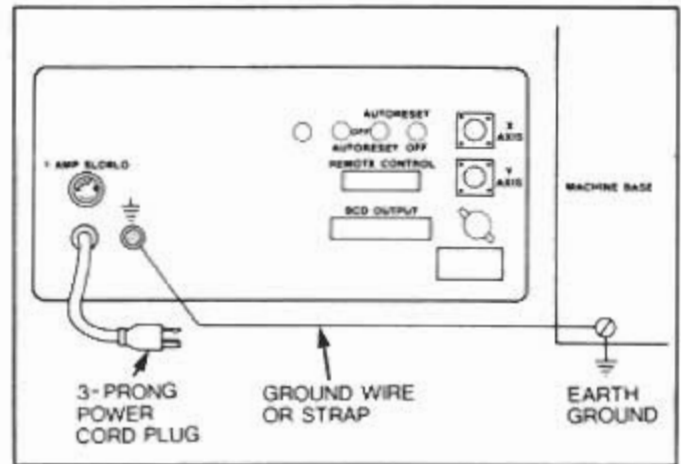

Figure 2-3. Console Electrical Connections
- Refer to Figure 2-3. Connect a heavy-gauge braided ground strap or copper wire from the thumb-screw terminal on the rear of the console to a convenient point on the machine base. Check that the ground wire is a minimum length and routed so that it will not be pulled or rubbed during machine operation. Ground the machine base by connecting it to a cold-water pipe or other solid earth ground. A metal stake driven several feet into the ground will suffice if no other ground is available. (No special ground is required for scale assemblies.)